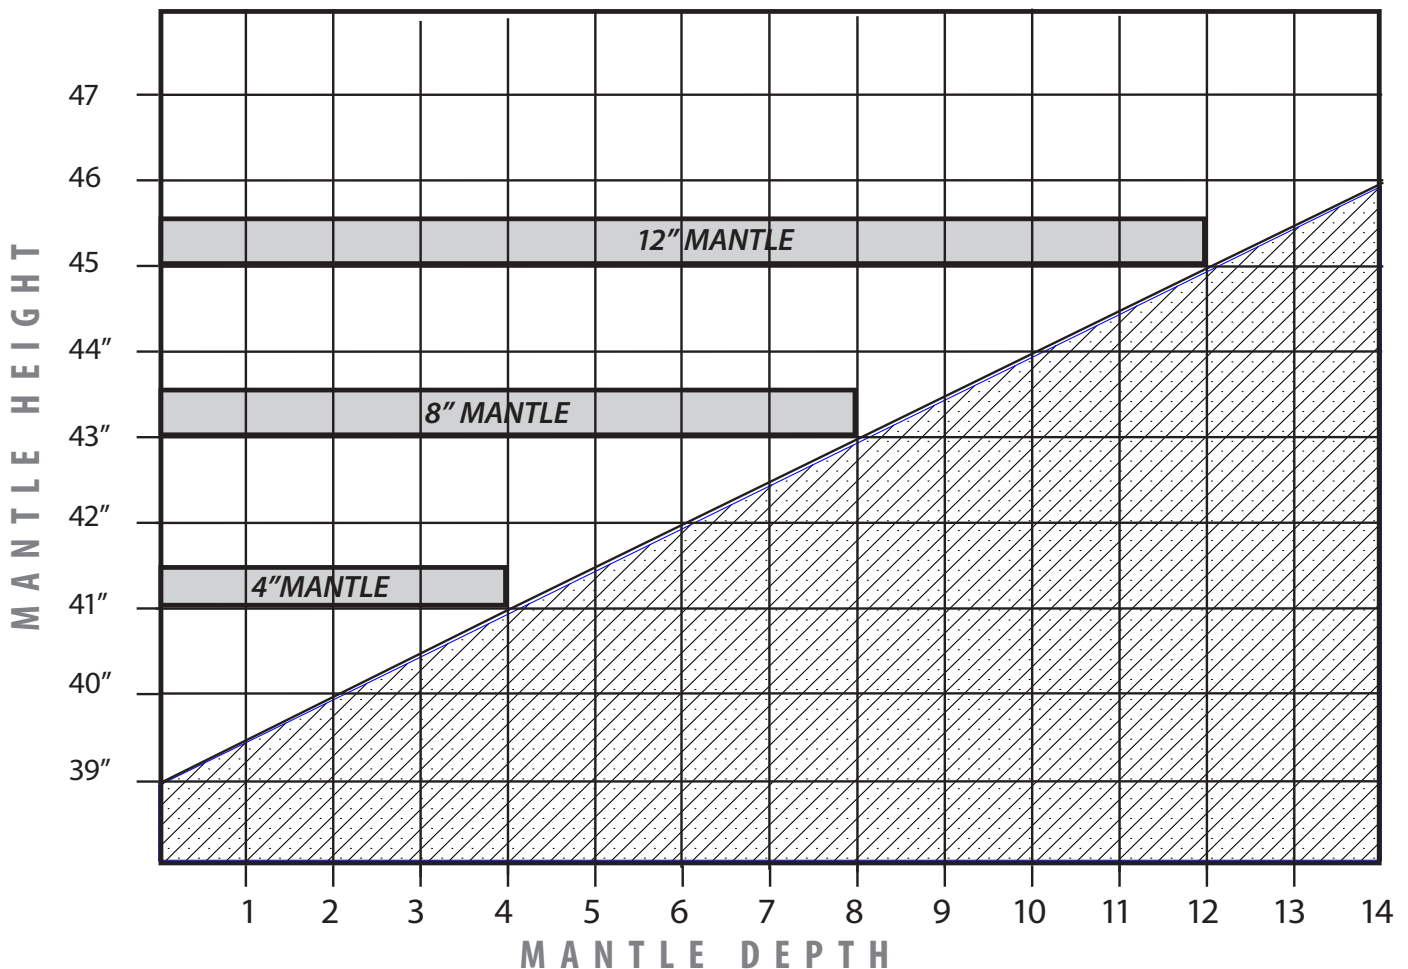
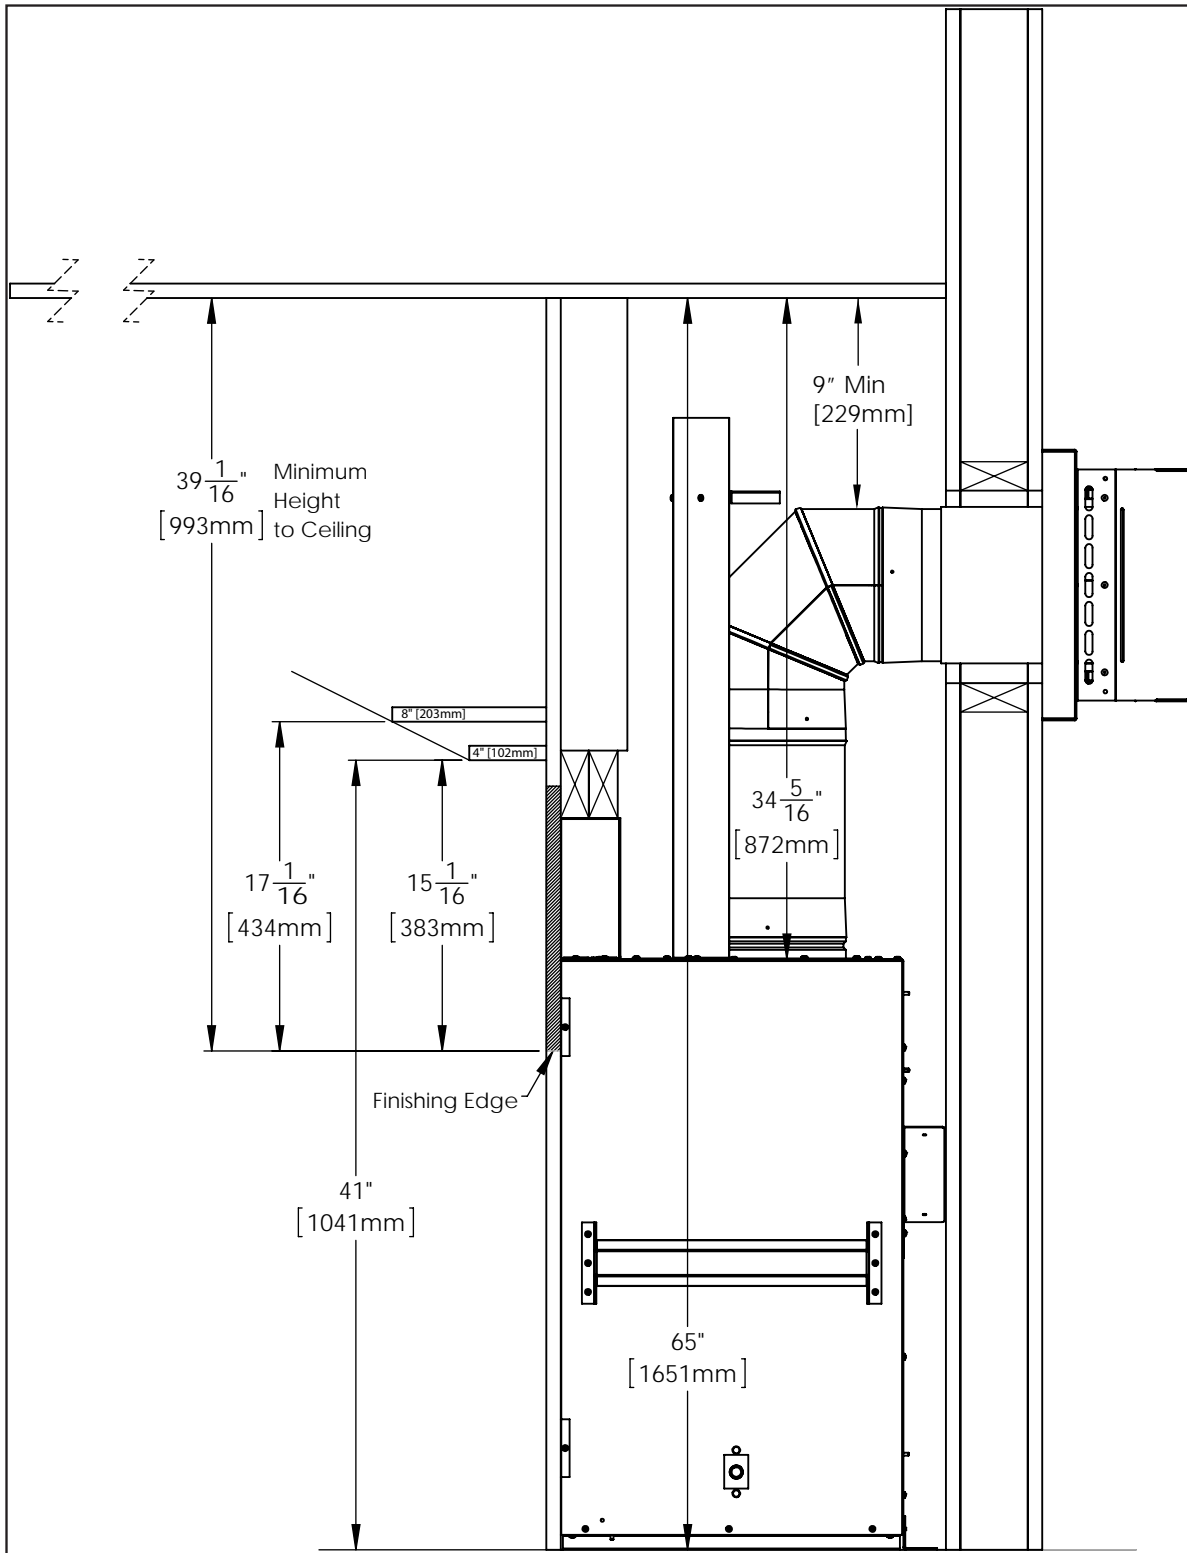
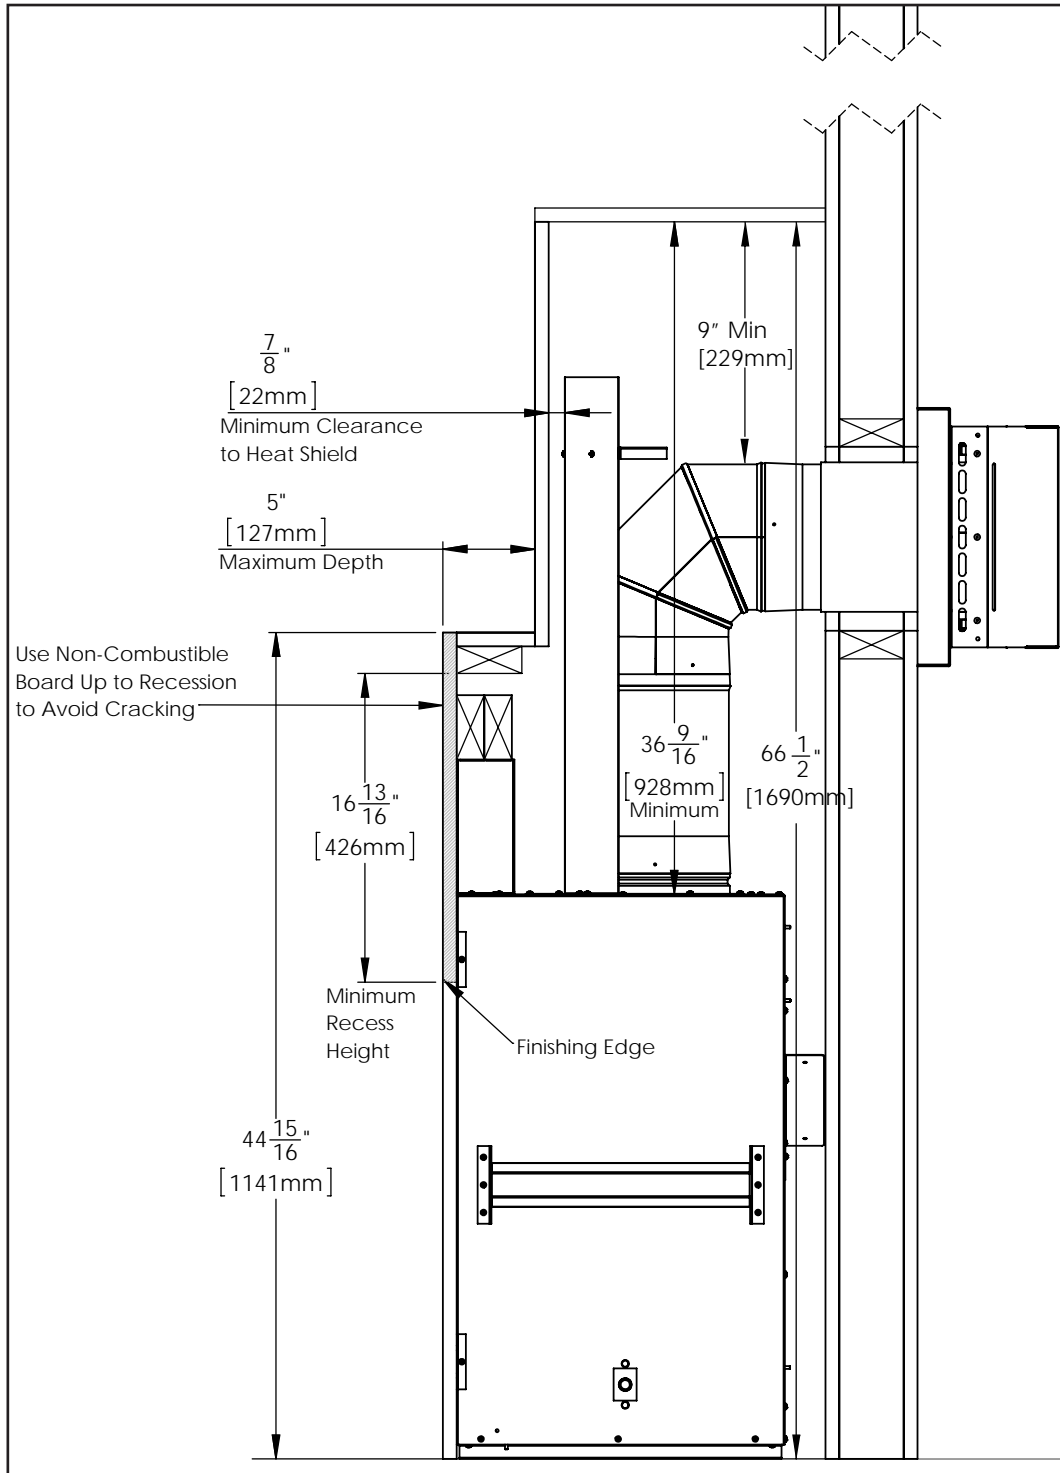
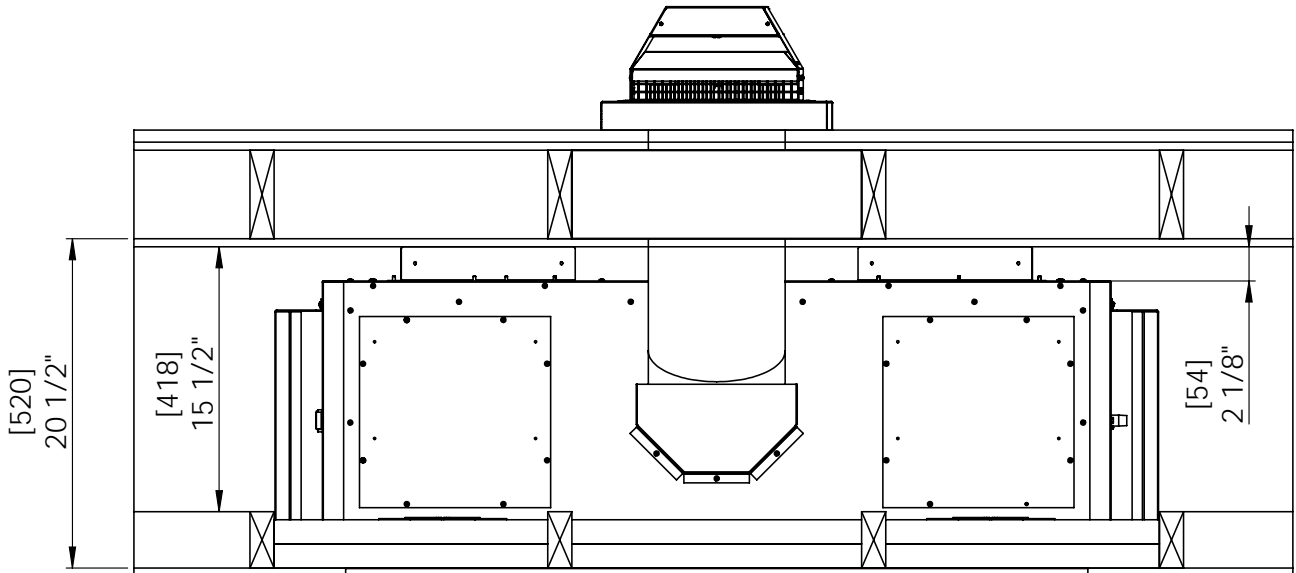

Figure 34: Minimum Mantel Height
Figure 35: Install Dimensions with Mantel
Figure 36: Install Dimensions with Recess
Figure 39: Dimensions for a Horizontal Installation
Refer to Figure 34 & Figure 35 for a combustible mantel installation, measurement is from bottom of the unit to the bottom of the mantel.
If adding a mantel to the C441 / C44ID please note the critical dimensions shown in Figure 35. These are minimum dimensions as per certification and must be followed.
Refer to dimensions in Figure 36 if building a recess above the fireplace. Note the dimensions from the finishing edge to the stud below the recess finishing material. The vertical finishing material at the back of the recess must be spaced  $\frac{7}{8}$ " off the vent shield. Also note the dimension from the vent pipe to the internal ciling this must be maintained if the fireplace is raised.
Figure 39 shows a horizontal vent installation with minimum clearances. The horizontal vent shield must be used when the minimum vent configuration is used. If more than 12" of vertical rise is used the shield should not be installed. The vent to ceiling clearance must be maintained no matter the additional vertical vent height; see Figure 35 & Figure 36. A minimum of 1" clearance on all sides of the vent pipe must be maintained at all time unless specifically stated.
**MANTLE:** It is not necessary to install a mantle, but if one is desired the guidelines as shown in Figure Figure 34 & Figure 35. The minimum clearance from the side of a mantle to wall is 4".